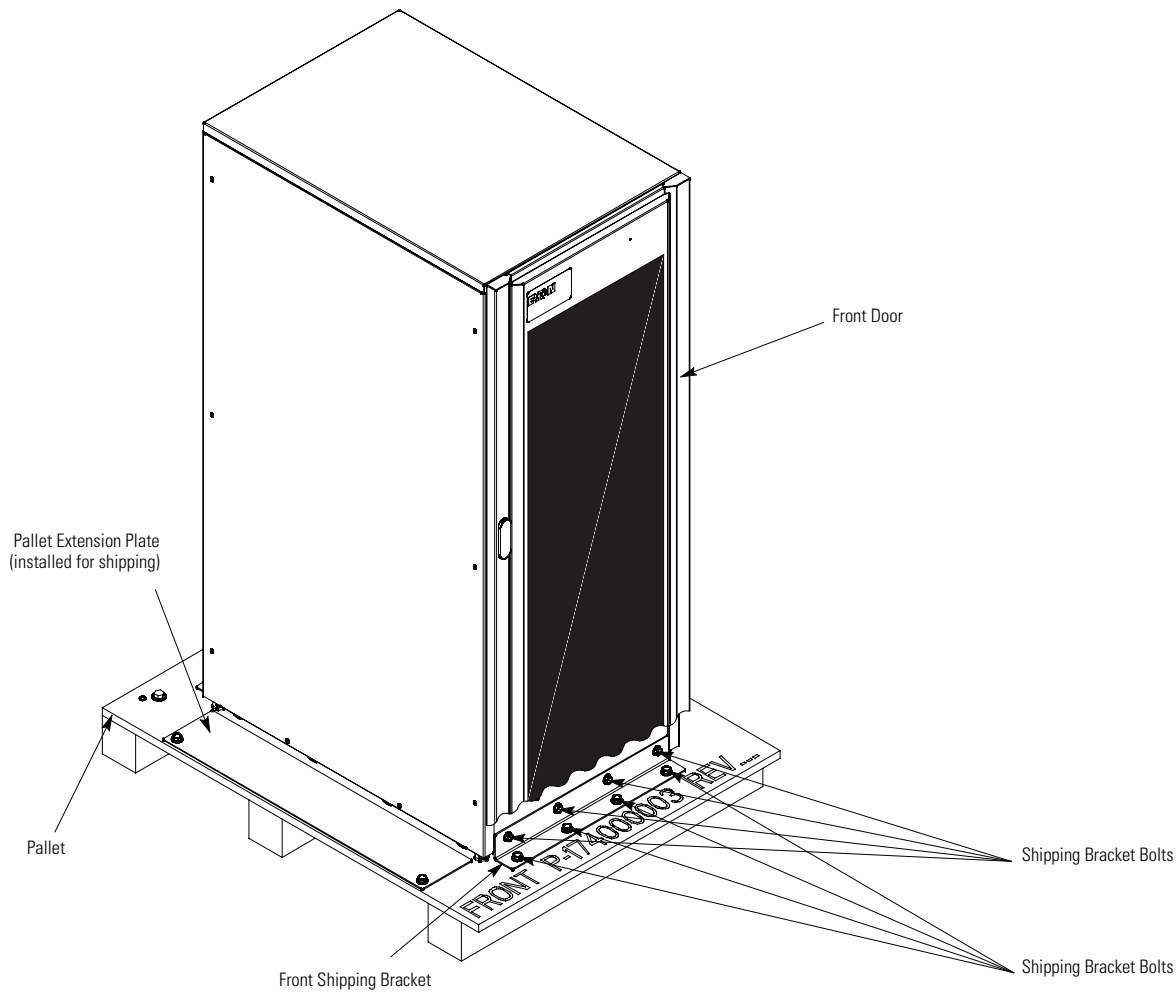
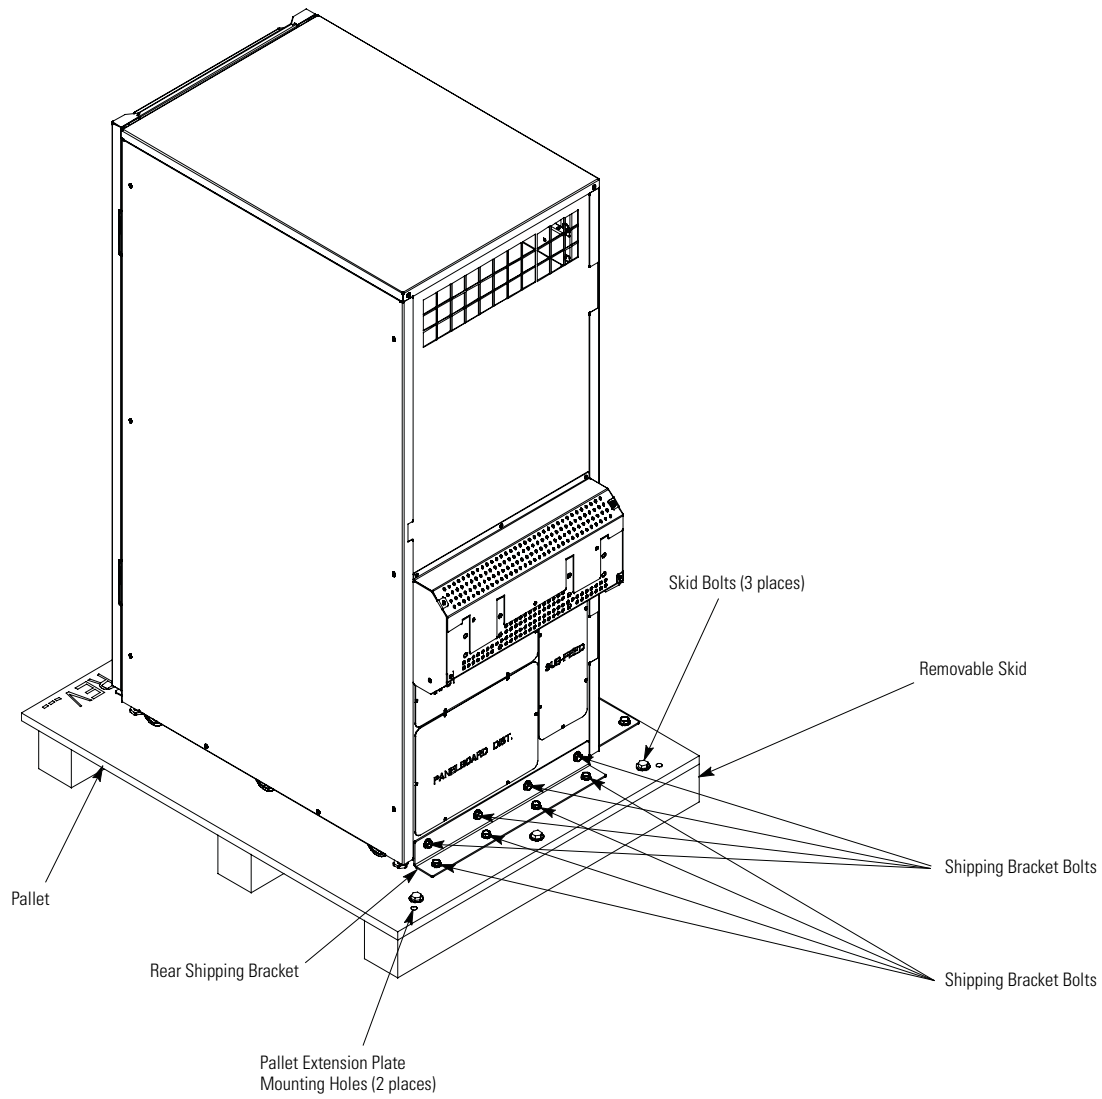
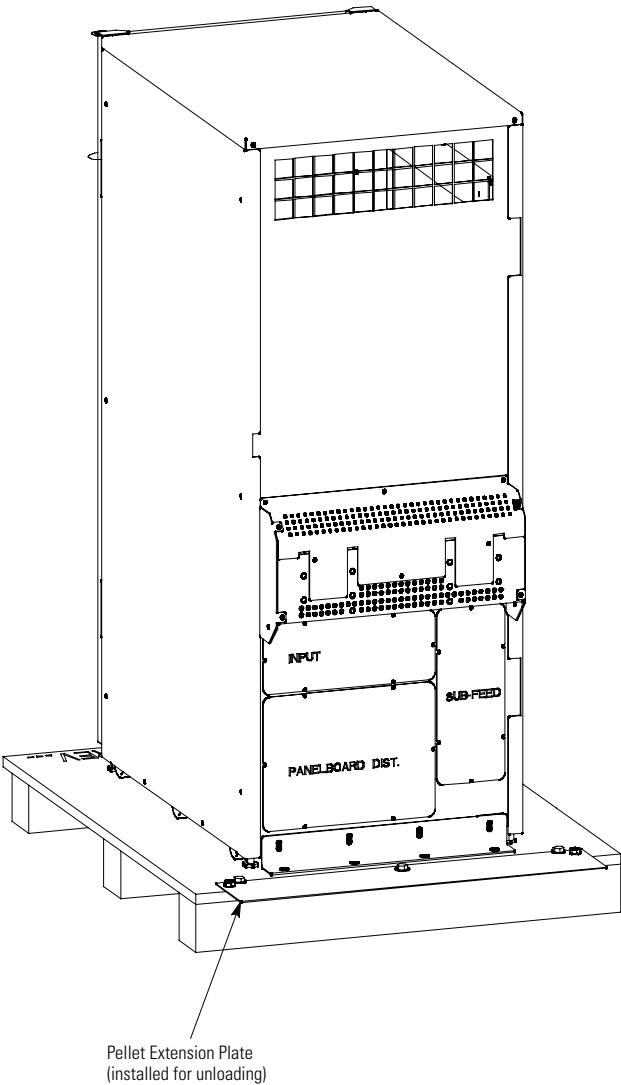

Figure 4-1. Removing the Front Shipping Bracket – 93E 30IAC-D
Figure 4-2. Removing the Rear Shipping Bracket – 93E 30IAC-D
Figure 4-3. Installing the Pellet Extension Plate – 93E 30IAC-D
2. Open the front door (see Figure 4-1) by lifting the latch from the bottom and turning to the right (counterclockwise), then swing the door open.
4. Remove four bolts securing the front shipping bracket to the cabinet and four bolts securing the bracket to the pallet (see Figure 4-1). Remove the front shipping bracket. If installing the cabinet permanently, retain the shipping bracket and securing hardware for later use.
5. Remove four bolts securing the rear shipping bracket to the cabinet and four bolts securing the bracket to the pallet (see Figure 4-2). Remove the rear shipping bracket. If installing the cabinet permanently, retain the shipping bracket and securing hardware for later use.
7. Remove three bolts securing the removable skid (see Figure 4-2).
8. Remove two bolts securing the pallet extension plate to the pallet and remove the plate (see Figure 4-1).
9. Install the pallet extension plate onto the rear of the pallet using the retained bolts (see Figure 4-3). Use the mounting holes provided in the pallet (see Figure 4-2).
10. If necessary, use a forklift or pallet jack between the supports on the bottom of the pallet to lift the pallet by approximately 3 mm (1/8") and remove the skid (see Figure 4-2).
16. Using the retained hardware (removed in Steps 4 and 5), reinstall the shipping brackets to the front and rear of the IAC-D with the angle facing outward (see Figure 4-1 and Figure 4-2).